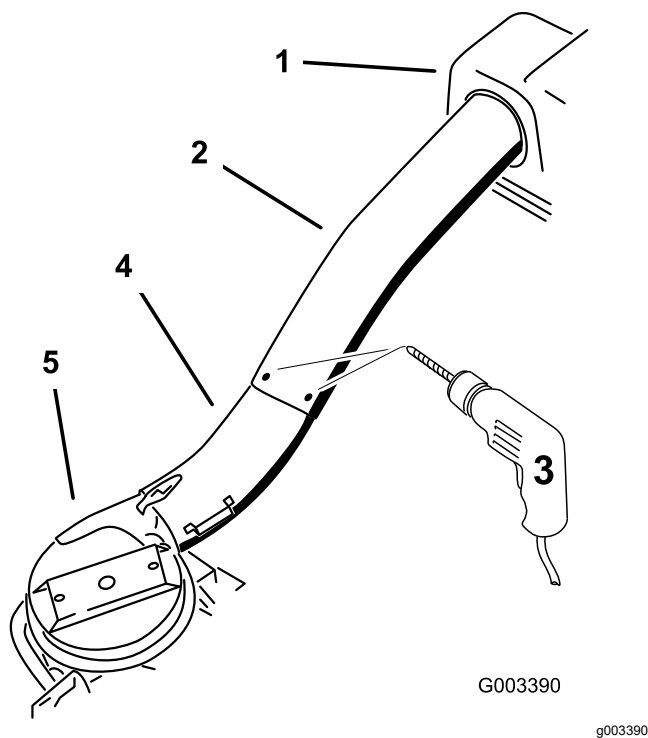

Figure 24
10. Using the 3 holes or indentations in the upper tube as a template, drill 3 holes (7/32 inch diameter) where the upper and lower tubes join together (Figure 24).